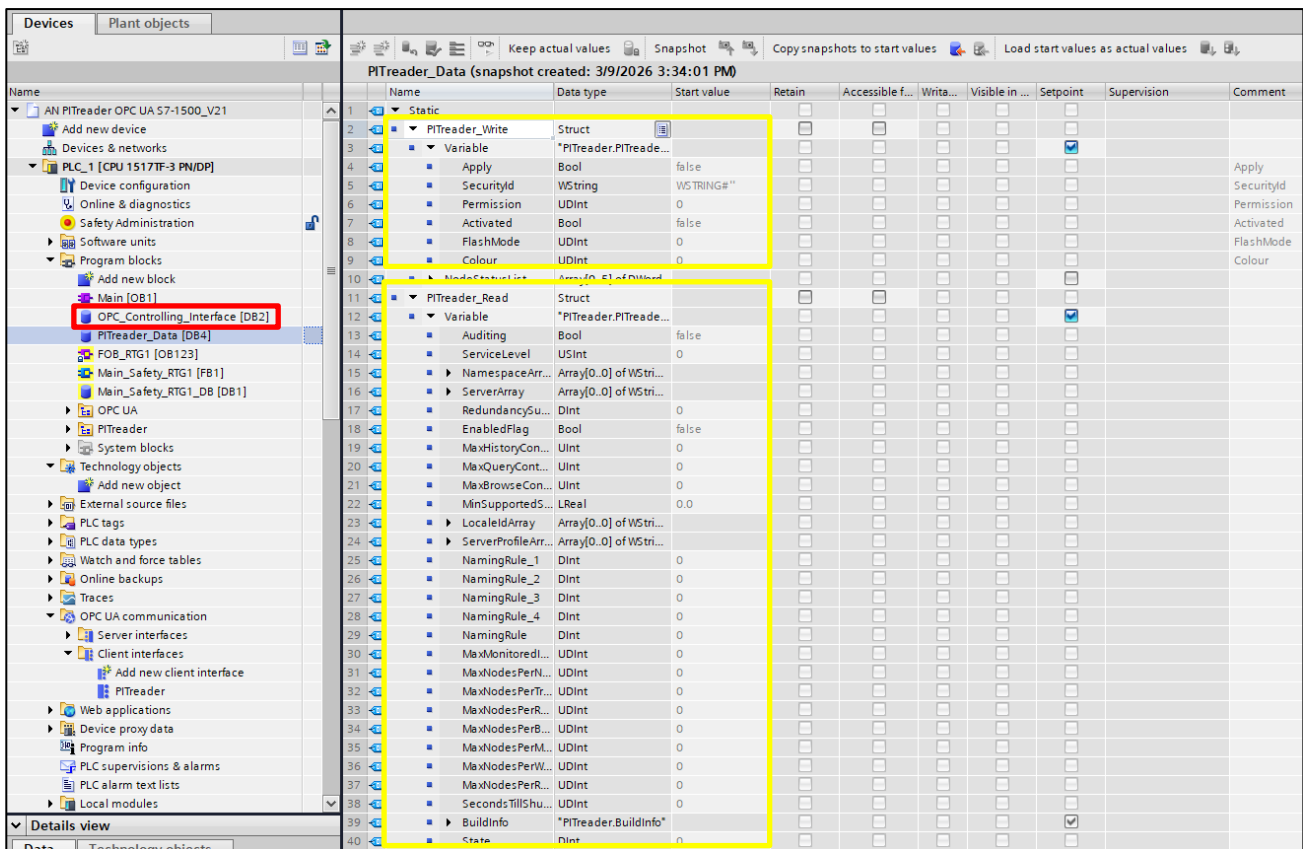

Figure 19: Data block with variables in the read and write list
3. In the project navigation, navigate to *Devices -> Program blocks -> [Name of the Client interface]\_Data [DBx]* (Figure 19 red square).
4. Open *[Name of Client interface]\_Write / Read -> Variable* and check whether the variables that have been added to the read and write list are available (Figure 19 yellow square).
1. Open the data block in which the read list's variables are available (Figure 19).